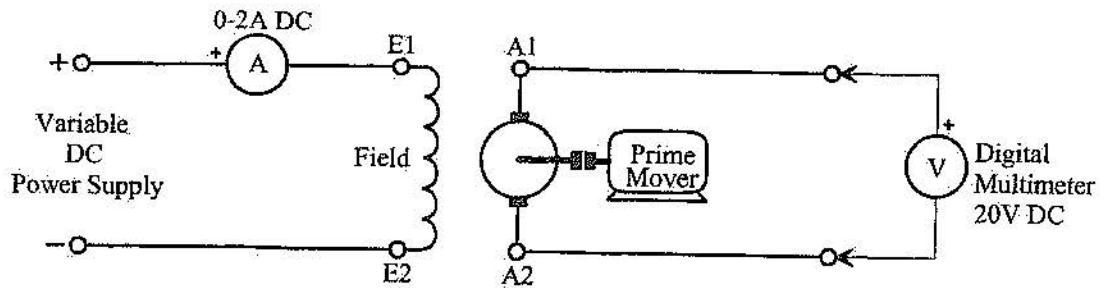

Figure 1
2. Connect the circuit as shown in figure 1.